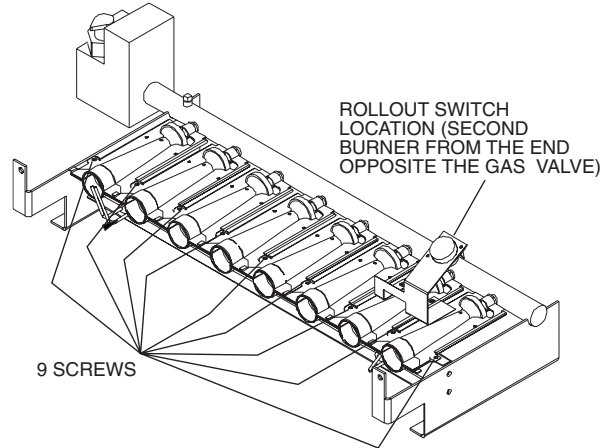

Fig. 3 — Burner Removal and Rollout Switch Location
1. Remove the 9 screws securing the burners and rollout switch to the manifold. See Fig. 3. Save screws.
4. Reattach the burner manifold assembly to the burner brackets using the screws saved from Step 1. Make sure that all orifices have been installed. Reattach the rollout switch at the same time. Make sure the switch is located in its original position. See Fig. 3.